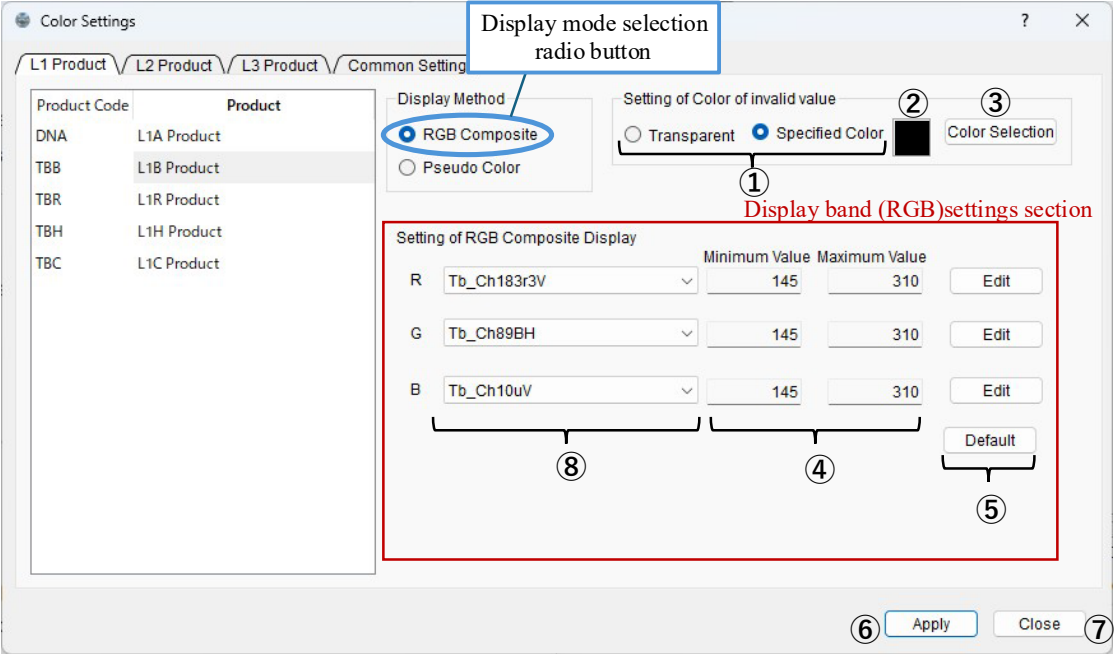

Figure 10-4 Explanation of Display Band (RGB) Setting Section
Table 10-1 provides descriptions and actions for items ① to ⑧ in the Display Band (RGB) Settings Section, indicated by the red frame in Figure 10-4.